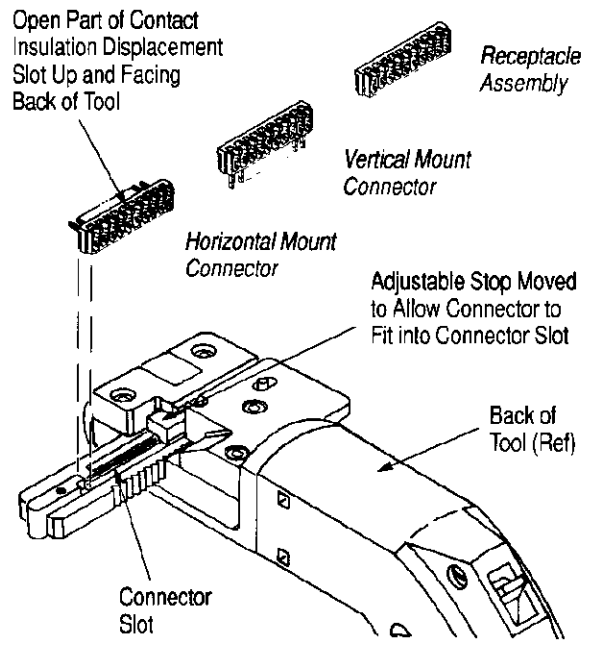

Figure 3
2. Orient the connector with the head assembly as shown in Figure 3: the open part of the insulation displacement slot is up and facing the back of the tool. Making sure that the connector slot is large enough to accept the connector, fit the connector in slot. Then move the adjustable stop flush against the connector and tighten the socket head cap screw, securing connector to head assembly.